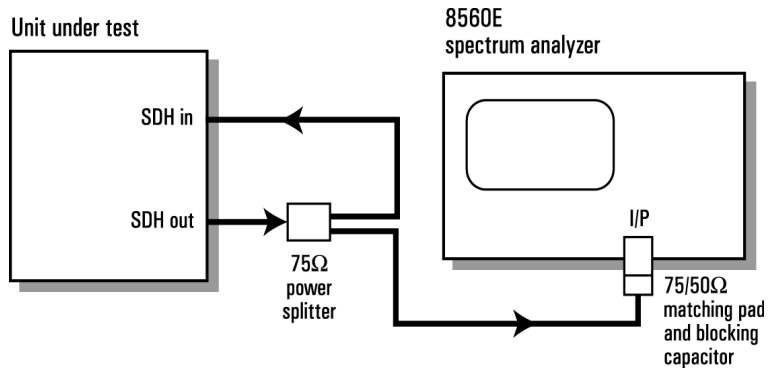

Figure 3-7
- 3 Connect up the equipment as shown in Figure 3-7.